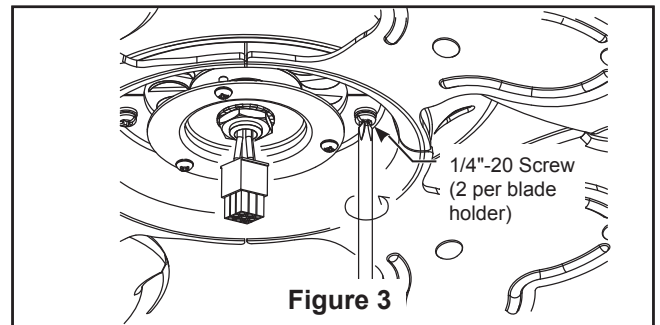

Figure 3
- ☐ 5. Attach assembled blades and blade holders to the motor hub using the provided screws. (Figure 3)